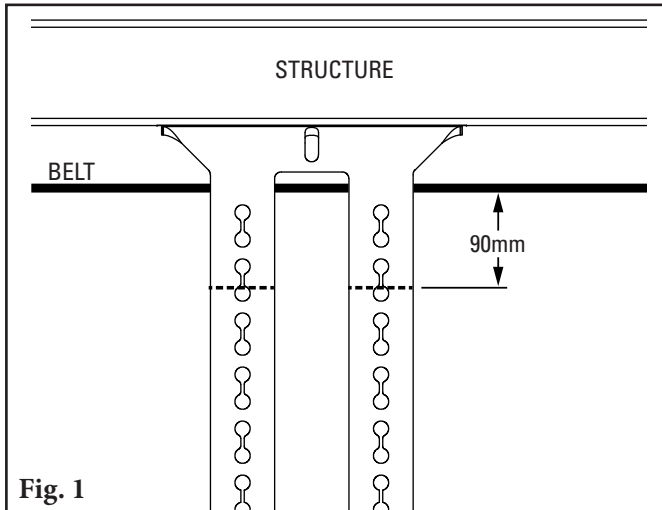

Fig. 1
- a. For push-up installation, use a straightedge to push up against the belt to remove the slack and make a mark on the bracket for the bottom of the belt. From that mark, measure down 75mm and make a second mark (Fig. 1). The second mark is where the centre of the pole should line up in Step 6.
- a. For push-up installation, use a straightedge to push up against the belt to remove the slack and make a mark on the bracket for the bottom of the belt. From that mark, measure down 90mm and make a second mark (Fig. 1). The second mark is where the centre of the pole should line up in Step 6.